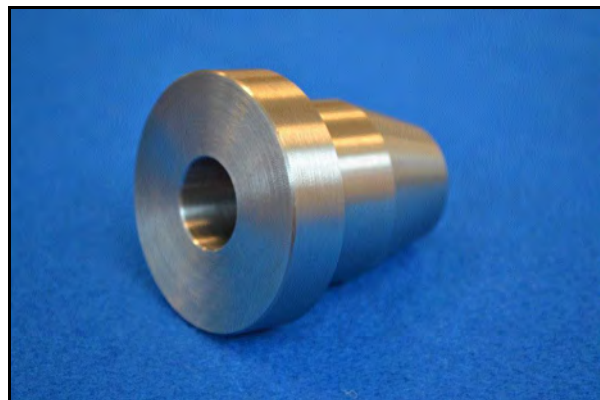

Figure 2. Vapor Pin™ Drilling Guide.
- Vapor Pin™ Drilling Guide (Figure 2);